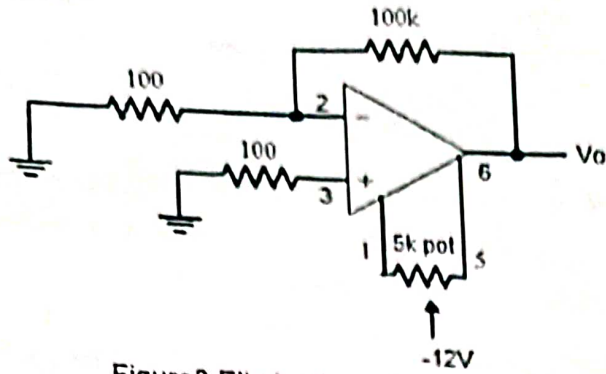

Figure 3. Elimination of offset voltage
4. To eliminate this offset voltage, connect the circuit as shown in Figure3.